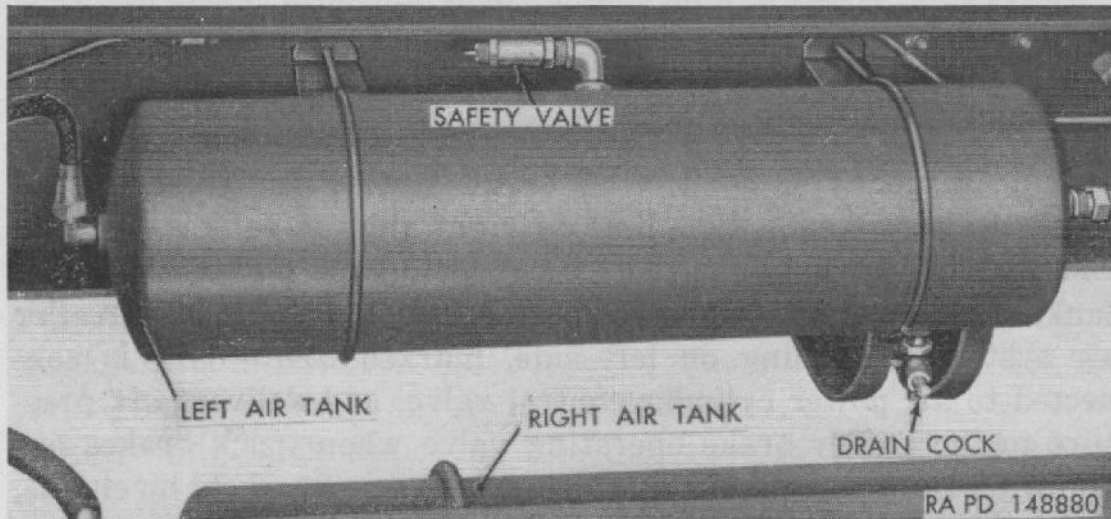

Figure 136. Air tanks, drain cock, and safety valve.
- (1) *Air tanks.* Two air tanks are mounted inside of frame side rails ahead of forward rear axle (fig. 136). The
- (2) *Safety valve.* Safety valve, installed on top of left air tank (fig. 136), is provided to eliminate the possibility of air pressure building up in the system beyond a safe maximum in the event of failure of the compressor control valve. Safety valve permits air pressure in excess of 150 psi to escape.
c. **SAFETY VALVE REPLACEMENT** (fig. 136). Unscrew safety valve from elbow on top of left air tank. Coat threads of new or rebuilt safety valve with plastic-type gasket cement and thread into elbow on air tank. Tighten firmly.